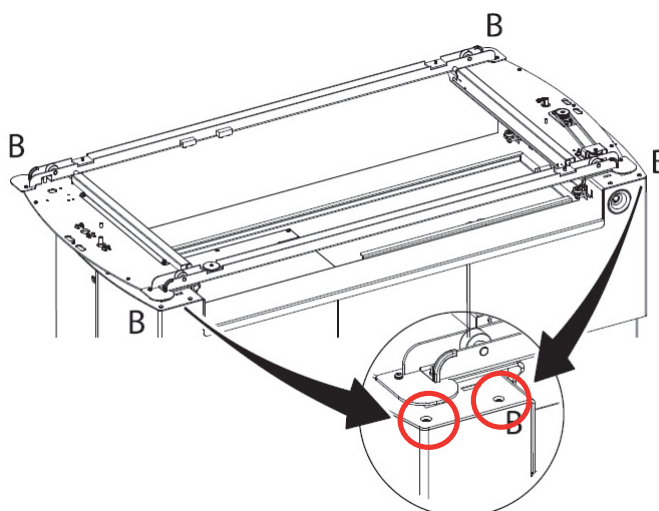

Fig. 4-82 Remove the 8 screws at "B"
2. Move the table frame again, to a new position where the 2 screws at the four "B" locations (a total of 8 screws) can be removed. See Fig. 4-82 Remove the 8 screws at "B"